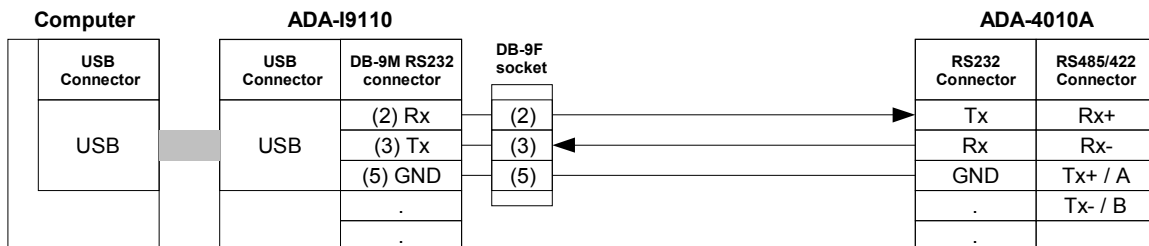

Fig 4. Connection to Computer by the use of USB to RS232 converter (ADA-I9110/ADA-I9111)
- USB port of computer is needed additional converter USB to RS232 e.g. ADA-I9110 converter or ADA-I9111 converter. Typical connection of ADA-4010A to PC is shown on Fig. 4.